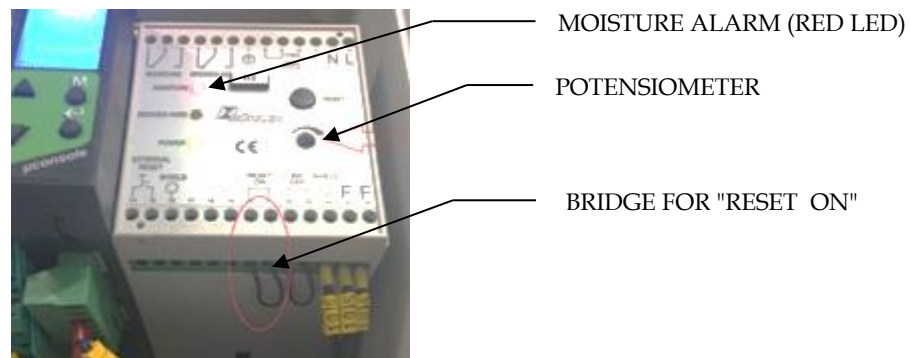

Figure 26 Moisture sensor controller
- 3) Make sure bridge for "RESET ON" is removed. Refer to Figure 26.
- 4) Adjust potentiometer clockwise until moisture alarm is activated (red LED). Refer to Figure 26.
- 5) To adjust the moisture sensor against ambient air, reset the alarm and activate the set point by adjusting the potentiometer $\frac{1}{4}$ turn counter clockwise. Refer to Figure 26. (The red LED is turned off.)